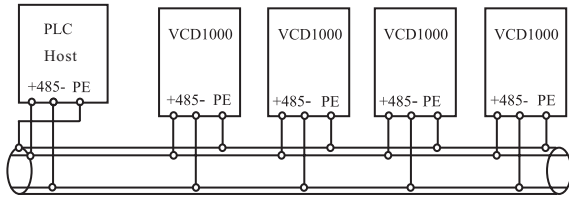
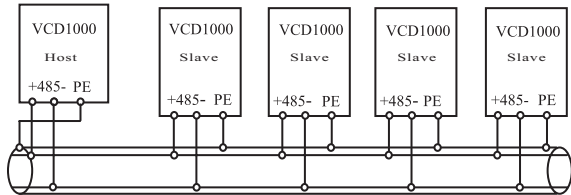

Fig. 3-12 PLC communication with multi inverters
Fig. 3-13 Multi inverters communication
- (3) Multi inverters can be connected together via RS 485, controlled by PC/PLC as a host shown as Fig. 3-12. It also can be controlled by one of inverters as a host shown as Fig. 3-13.